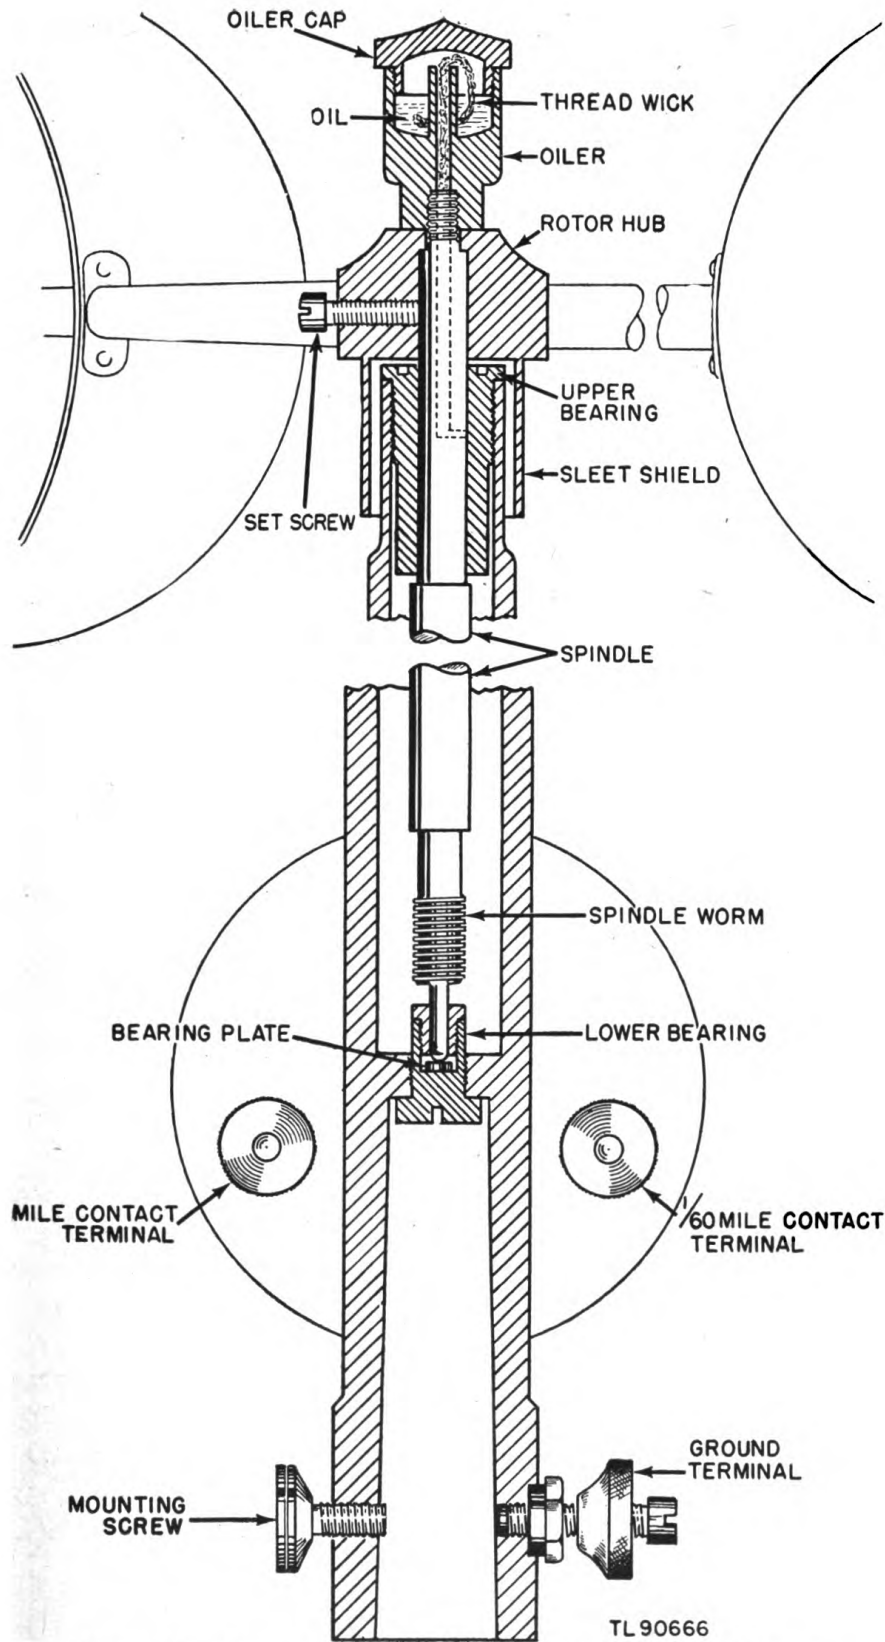

Figure 11. Anemometer ML-80 or ML-80-B, cross section view.
d. Anemometer (fig. 11). (1) *Rotor.* Examine the rotor to detect bent arms or cups. Replace the rotor if any part of it is out of shape.
(5) Turn the spindle to move the cam and disk slowly past the index. Adjust the N contact first, by means of the adjusting screw, so that the N light goes off $33\frac{3}{4}^\circ$ to one side of N. It should do the same on the other side of N. If the action is not the same, check the contact roller arm for loose mounting and tighten.
(6) Proceed around the disk, to adjust each contact, using the limits mentioned, $33\frac{3}{4}^\circ$ to either side of a cardinal or intercardinal point. Thus, $11\frac{1}{4}^\circ$ to either side of any of the points will be the limit for that particular direction. (See par. 19.) If the light should go off too soon or too late, loosen the contact, shift the contact roller arm slightly to one side, tighten the contact and recalibrate until it is properly adjusted.
23. OVERHAULING ANEMOMETER (fig. 11). a. Time. Overhaul the